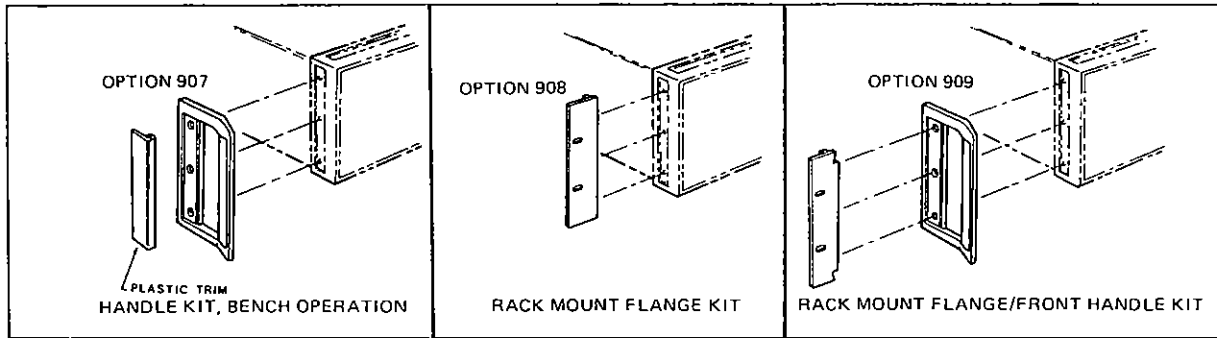

Figure 2-2. Rack Mount and Handle Kits.
- a. Remove the plastic trim (Figure 2-2) and front handles from the 3585A if it is so equipped.